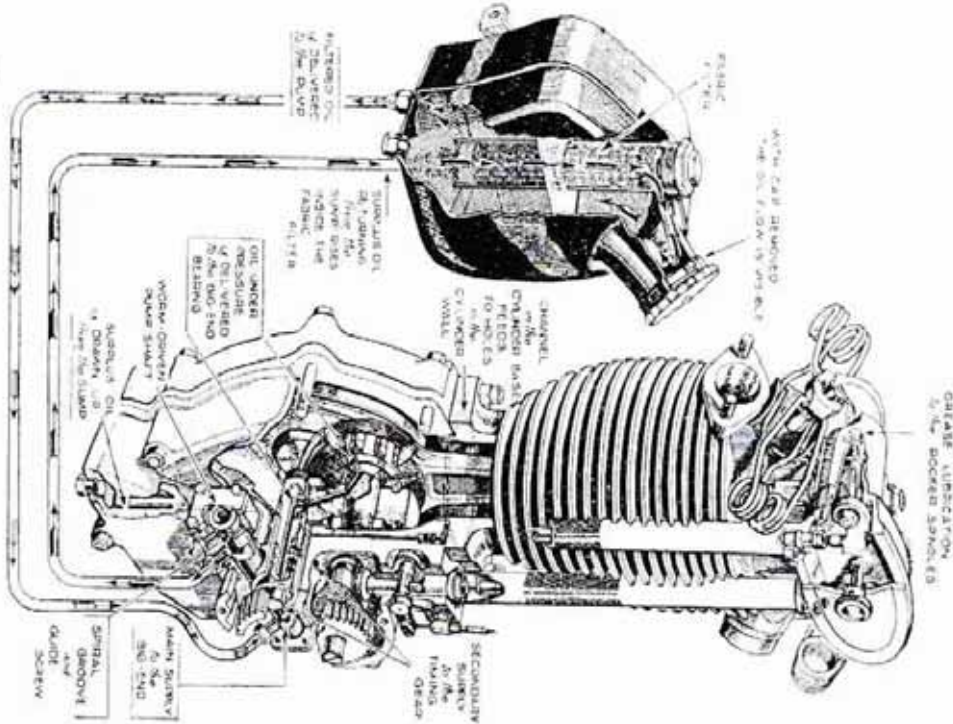

FIG. 12.—ENGINE LUBRICATION SYSTEM FOR MODEL G3.
*Model G3.*—Hairpin valve-springs were introduced. Fig. 12 shows the general layout and lubrication system.